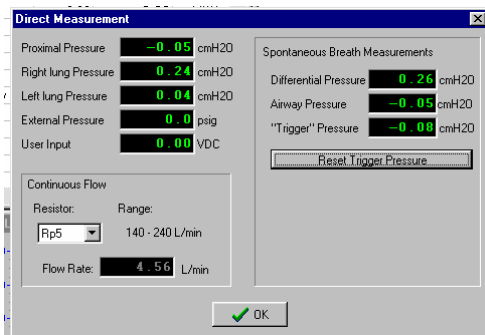

Figure 8
4. With the “SBM button” activated, pressing F6 on the keyboard will display the “Direct Measurement” dialog box. This screen displays the following Spontaneous Breath measurements: (*Figure 8*)